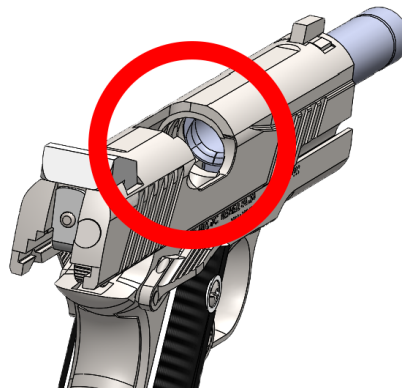

Figure 26
- Make certain that the chamber is empty – Figure 26